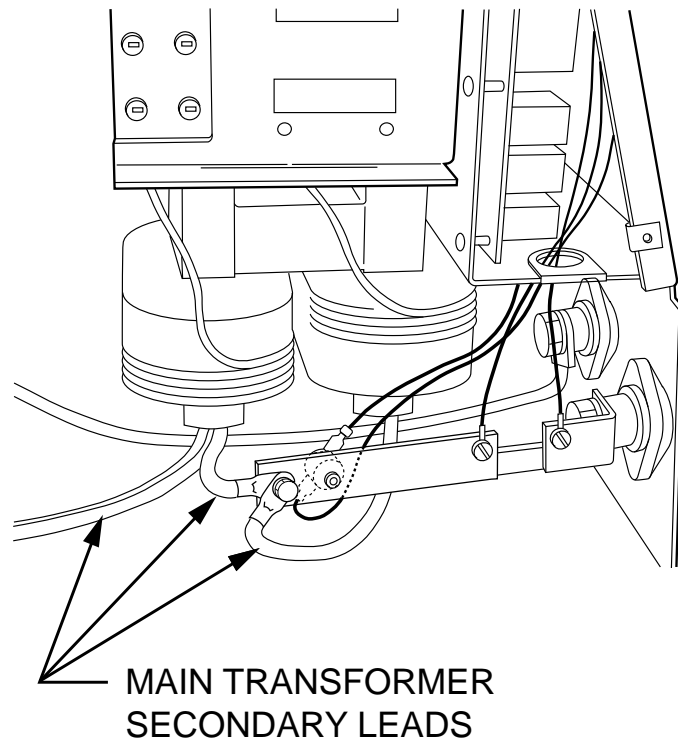

Figure F.24 Main Transformer Left Side
5. Locate main transformer and associated secondary leads, reactor leads, and shunt connections. See *Figure F.24*.
12. Using the 7/16" wrench remove the four secondary leads from the output rectifier module. Label the leads and note washer and lead placement for reassembly. See Figure F.24.